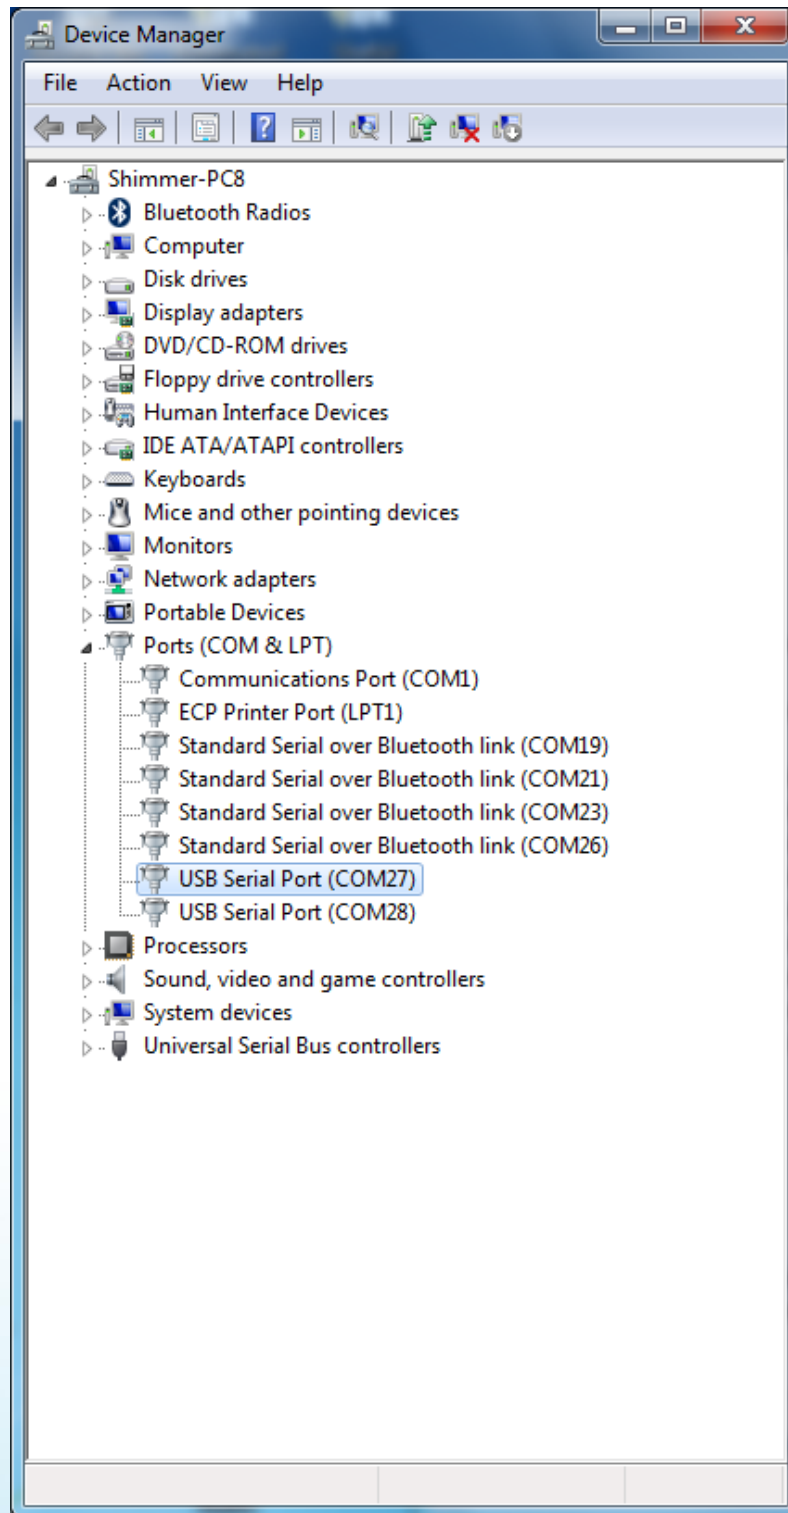

Figure 1-6 Device Manager showing Dock USB Serial Ports
- IV. Next, under the *Ports (COM & LPT)* entry in the *Device Manager*, you should see two new *USB Serial Port* entries, each with an associated COM port number, as shown in Figure 1-6.
For *Shimmer3* use the *Shimmer3 Bootstrap Loader* application. In contrast to the information regarding the BSL430 application in the start of this section, the Programming Port needs to be entered by hand. Note: the Programming Port is the USB Serial Port with the lowest number. For example COM27 in the Figure 1-6 Device Manager showing Dock USB Serial Ports. See also the *Shimmer3 Getting Started Tutorial Video* on YouTube.